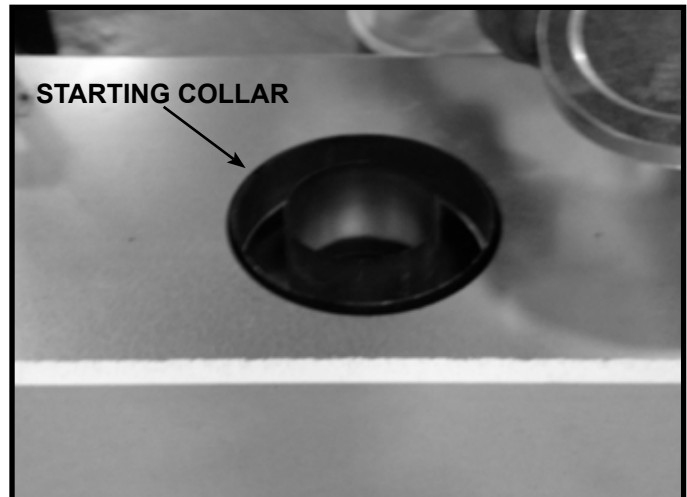

Figure 6.4 Starting Collar (Generic Fireplace Shown)
3. Secure the first section of venting to the firebox by attaching to the starting collar with screws. See Figure 6.4.